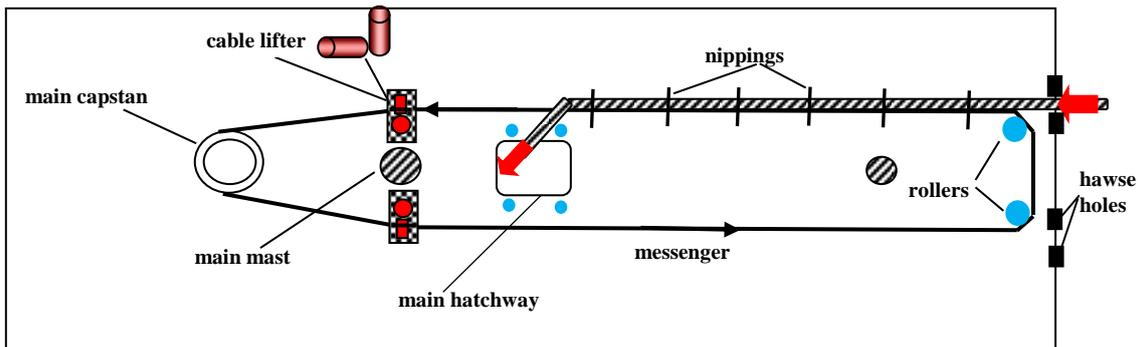

Figure 12: Messenger System
Fig. 12 is diagrammatic but portrays the essentials of the messenger cable system used to haul in the anchor cable.
- Approx. four turns of the messenger cable were passed around the capstan barrel and that was kept at the correct height by a pair of *cable lifters* fitted with both horizontal and vertical rollers (refer to Fig. 12 above).
- Essential to the smooth flow of the anchor cable itself were a pair of large, vertical *rollers contained in the manger area* immediately adjacent to the hawser holes (Figs. 12 & 13).